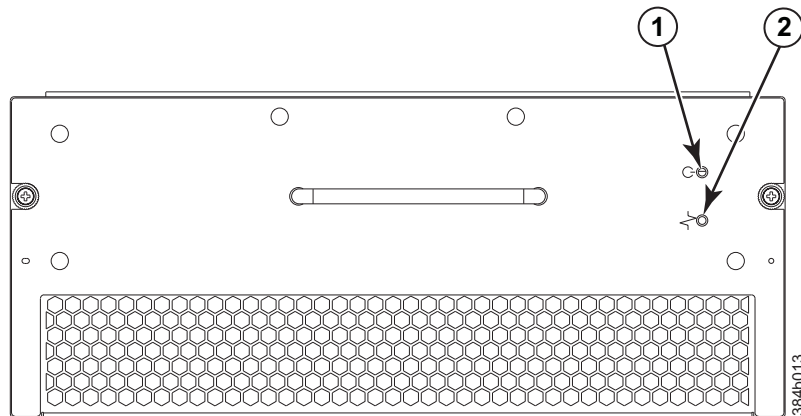

Figure 29. Blower assembly LEDs
1. Check the LED indicators on each blower assembly (see Figure 29 on page 64). The LED patterns may temporarily change during POST and other diagnostic tests; for information about how to interpret the LED patterns, see Table 12 on page 64. Be sure to check both blower assemblies.
Figure 29 shows the blower assembly.